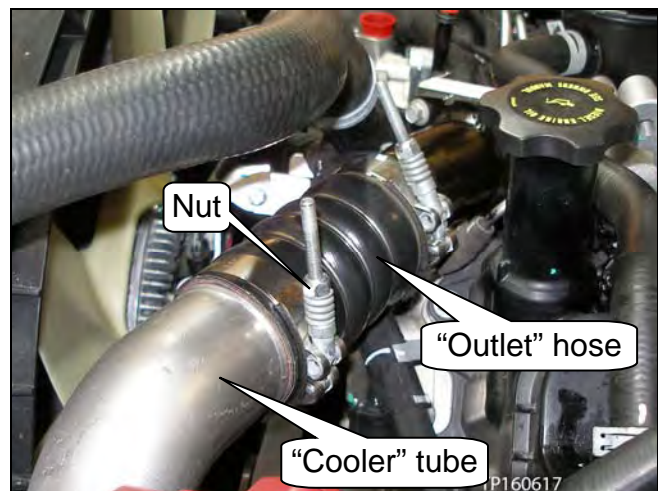

Figure 73
17. Remove the tape, and then connect the charge-air cooler tube to the charge-air cooler outlet hose (see Figure 73).